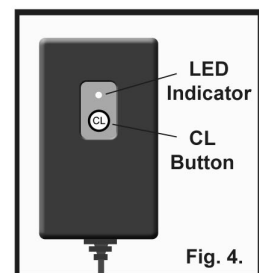

Fig. 4.
- Press and hold the 'CL' button, then press the new Transmitter's 'ON' button once. See Fig. 4